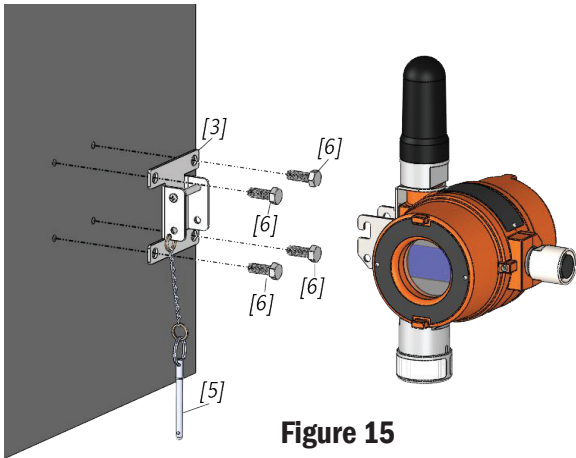

Figure 15
1. Remove hardware from packaging (see Figure 15).